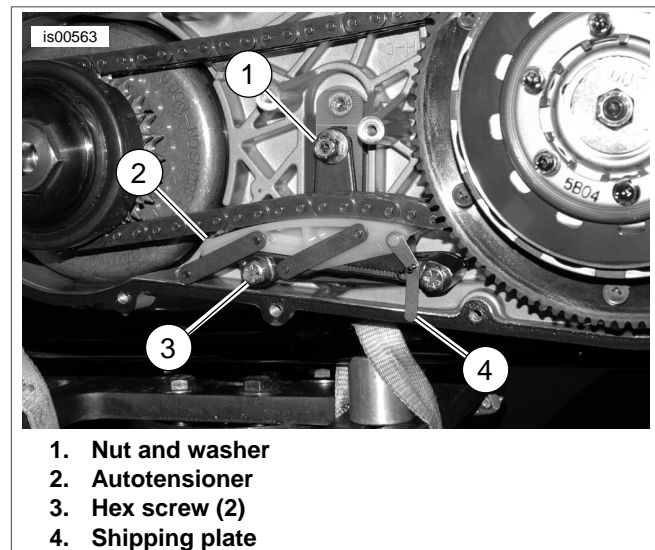

Figure 4. Autotensioner
6. See Figure 4. Install autotensioner (2) to the autotensioner bracket with two screws (3) from the kit. Do not tighten screws at this time.
7. See Figure 4. Position the autotensioner and bracket as follows:
- c. Tighten nut (1) to 21-29 ft-lbs (29-39 Nm).
- d. Tighten autotensioner hex screws (3) to 17-19 ft-lbs (23-26 Nm).
8. Remove tie wrap and shipping plate (4) to free the autotensioner. Flex the top of the chain to allow the autotensioner to adjust itself.